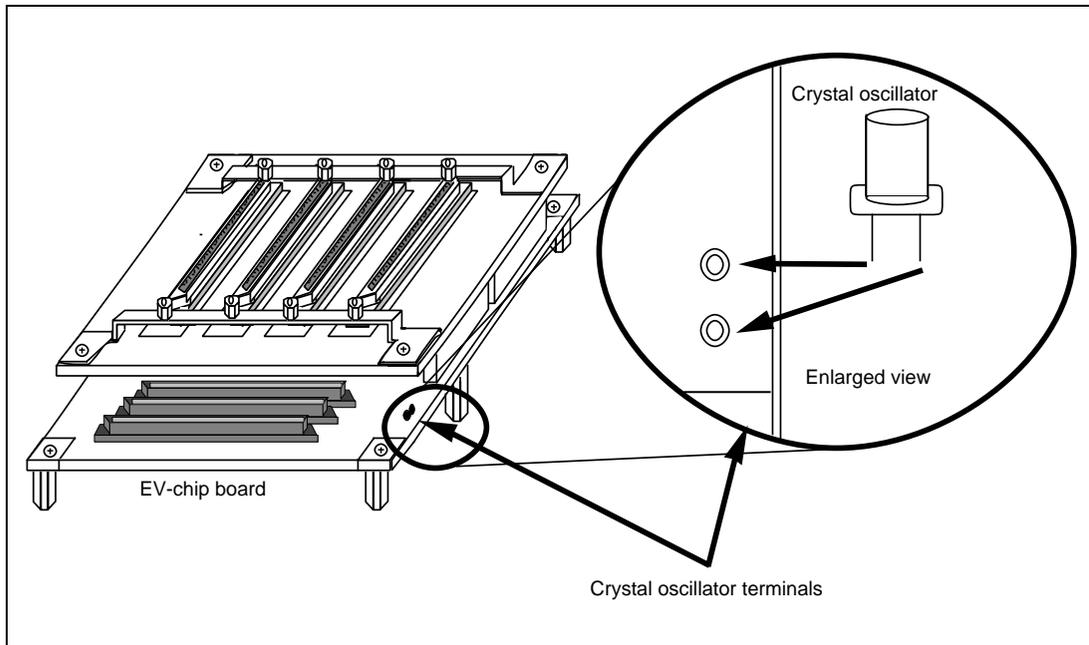

Figure 3.8 Installing the Crystal Oscillator
2. Attach the crystal oscillator into the terminals on the EV-chip board (figure 3.8).